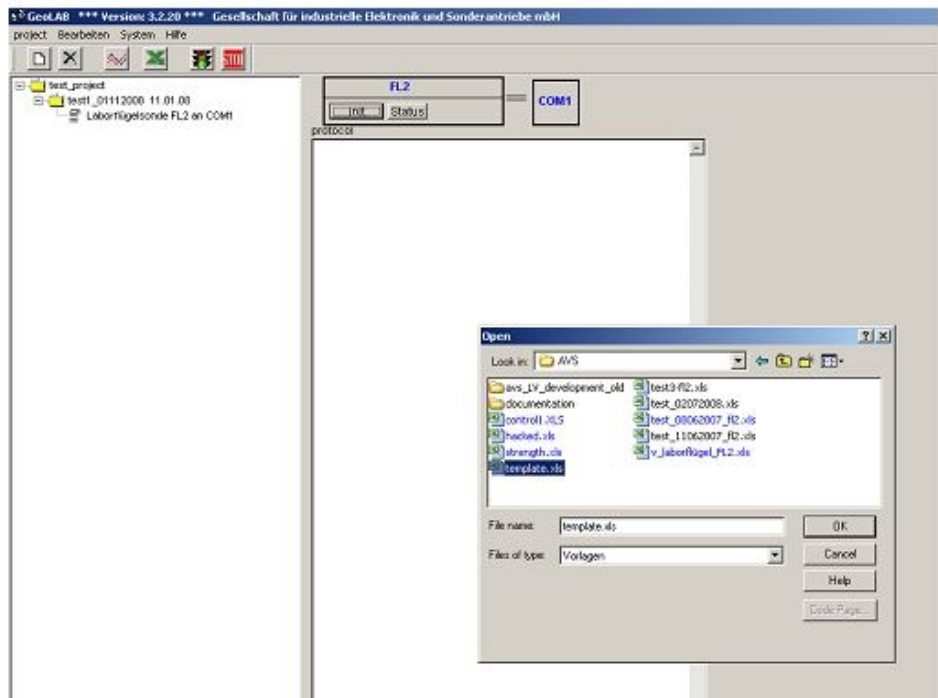
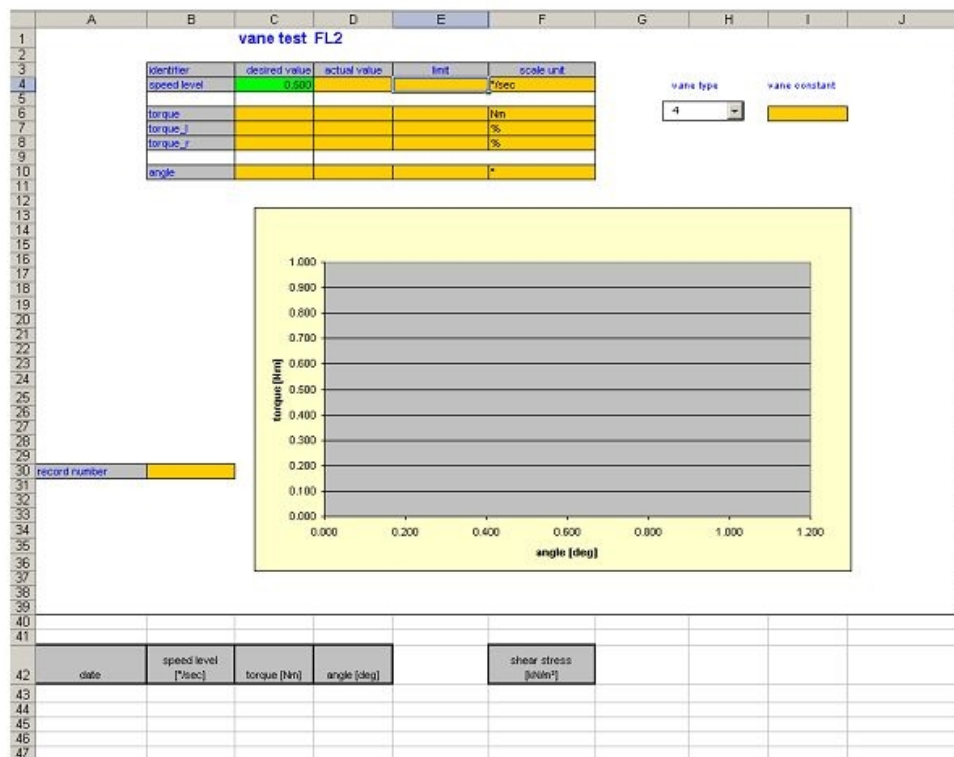

Figure 8. Selecting Giesa Main Control Template.
Figure 9. Giesa Excel Main Control Template.
4. From within GeoLAB, select the Excel icon to open the template for acquiring data (e.g., Template\_Expedition\_317.xls; see Figure 8, Figure 9); enable macros if asked. Do not rename or move the template file, which will be used the entire expedition.